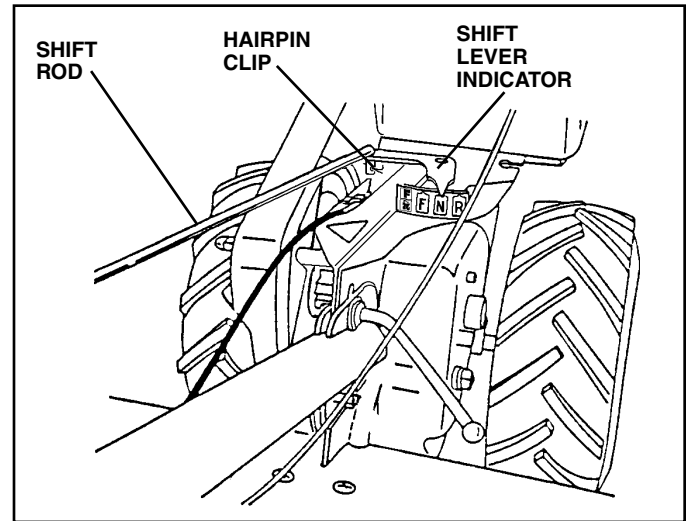

FIG. 7
CONNECT SHIFT ROD (See Fig. 7)
- Make sure shift lever indicator is in "N" position (See Fig. 7)